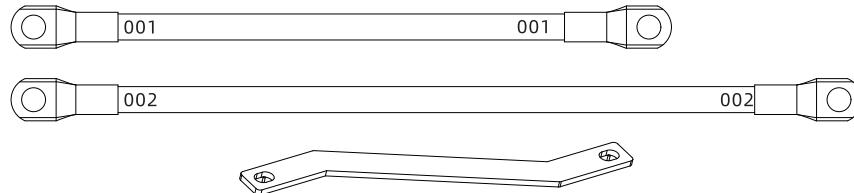

Figure-11 Schematic diagram of the series DC cable/copper bar
1). Take out the matching series DC cable/copper bar as shown in Figure-11 and separate the series DC cables according to the cable labels.